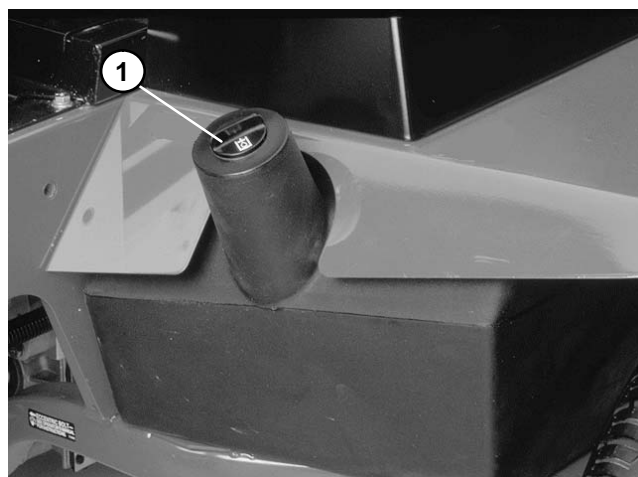

Figure 30
4. Install reservoir cap (Fig. 30). Start engine and use all hydraulic controls to distribute hydraulic fluid throughout the system. Also check for leaks. Then stop the engine.